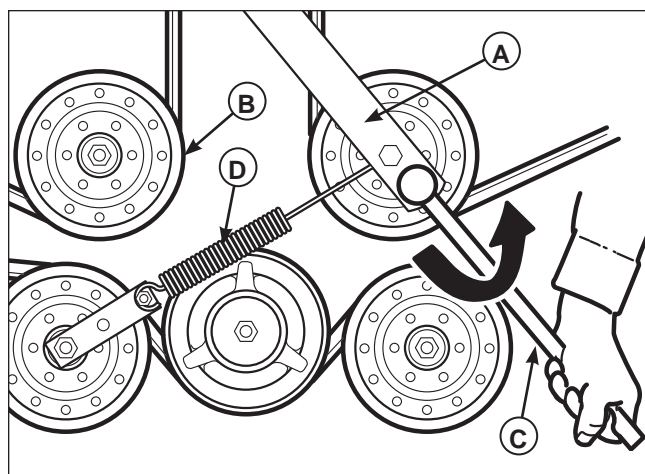

Figure 46. Mower PTO Belt
2. Using a 1/2" breaker bar, place the square end in the square hole located in the end of the idler arm (**A**, **Figure 46**). Carefully rotate the breaker bar **counter-clockwise**, which will relieve the tension on the belt exerted from the idler arm.